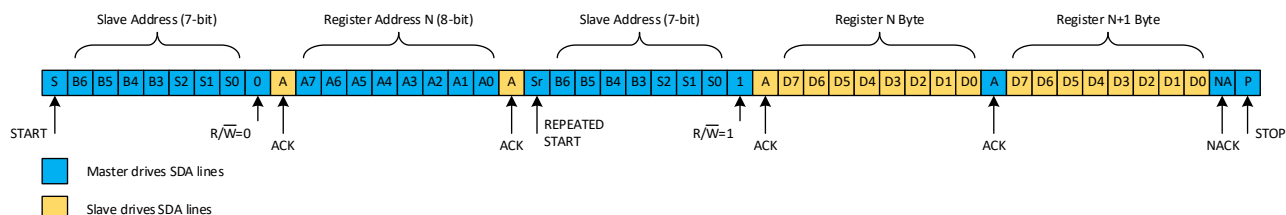

Figure 24: I²C Read Burst
- To receive the value of the next register, the controller shall send an ACK bit and keep sending clock pulses on the SCL line (Figure 24). This operation can be repeated multiple times and is only limited by the number of available registers.